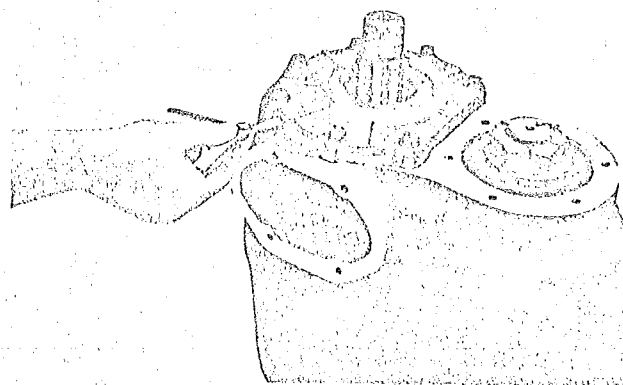

Figure 1
3. Check gap with feeler gauge. Subtract .003 " - .006 " from the amount of gap. This will be the thickness of the shims to be used (Figure 1).